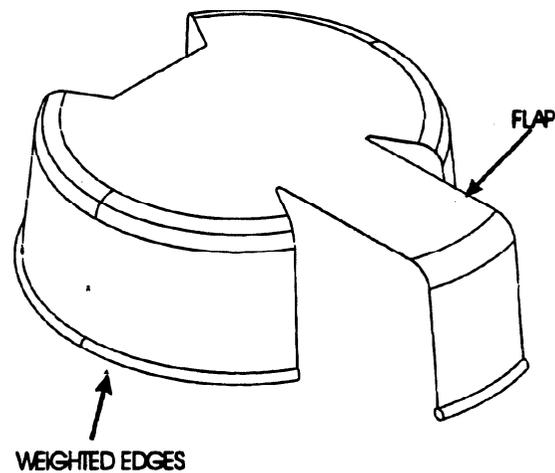

Figure 2-78. TC's Hatch Shroud
2.4.10.4. TC's Hatch Shroud Installation. Install the TC's Hatch light shroud, shown in Figure 2-78, as follows.